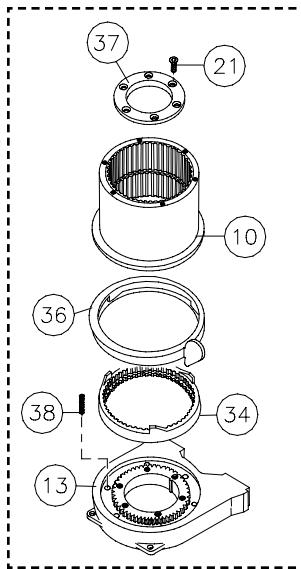
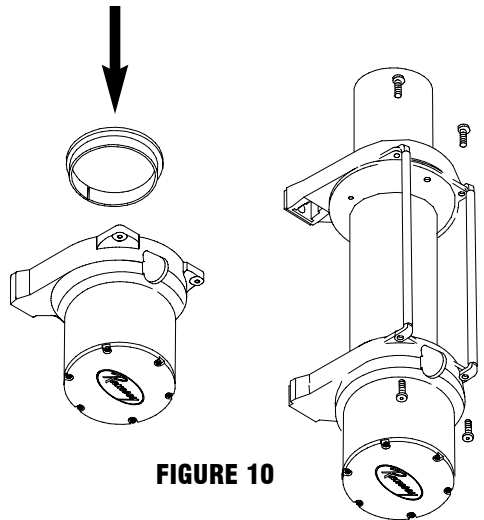

FIGURE 7
FIGURE 10
8. Reassemble Gear Housing as shown in Figure 7. Make sure locking ring is positioned with stop post at marked location. The capscrews (item #38) for the retainer should be tightened to 40-45 in-lbs. **Do not over-tighten.**
9. Place Gear Housing over the stacked gears, etc. that you removed in step 3. Gently work the housing over the stack, turning it as needed to mesh the planetary gears with the ring gear in the housing. Once they are all in the housing, flip the assembly over. Align the Gear Housing Cover and gasket with the holes in the ring gear. Replace the (6) capscrews that hold the Gear Housing Cover onto the Gear Housing. Tighten securely.
11. Turn the Gear Housing over and set it on the work bench with the Gear Housing Cover down. See Figure 10.
13. Place the tiebars on the motor end and gear end and fasten using (4) screws. Tighten securely.